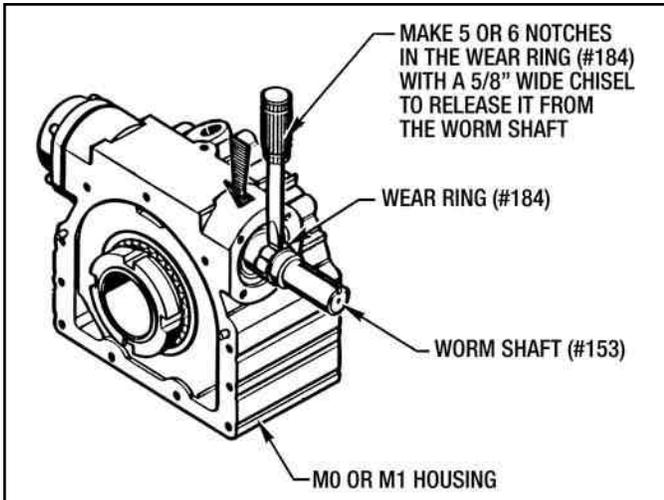

Figure 7.11 - Removing Wear Sleeve (#184) From Secondary Input Worm Shaft (M0 and M1 Models)
- If oil leakage was indicated around the Oil Seal (#158), and the Wear Sleeve (#184) shows signs of wear or damage, then remove the Wear Sleeve as shown in Figure 7.11. With a mallet and a 5/8" wide chisel, make 5 or 6 notches in the Wear Sleeve parallel to the Worm Shaft. This will buckle the sleeve and release it from the Worm Shaft. It can now be removed by hand.